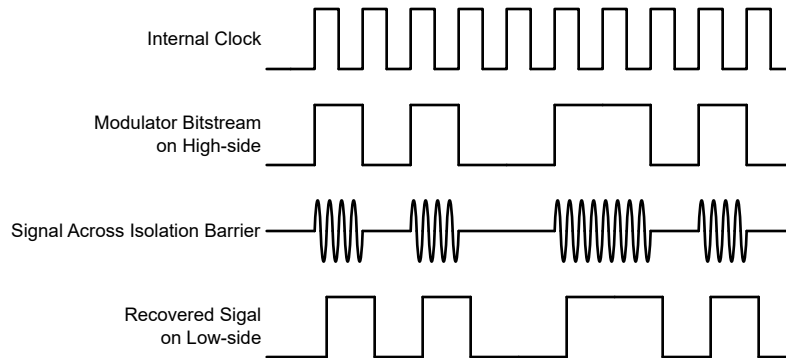

Figure 6-1. OOK-Based Modulation Scheme
As shown in Figure 6-1, the AMC0100R uses an on-off keying (OOK) modulation scheme to transmit the modulator output bitstream across the SiO₂-based isolation barrier. The transmit driver (TX) is illustrated in the Section 6.2. TX transmits an internally generated, high-frequency carrier across the isolation barrier to represent a digital *one*. However, TX does not send a signal to represent a digital *zero*. The nominal frequency of the carrier used inside the AMC0100R is 480MHz.